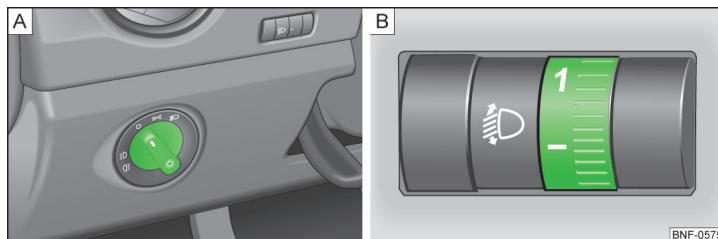

Fig. 35 Light switch / Knob for headlamp beam adjustment
The arrangement of the controls right-hand drive models may differ from the layout shown in » Fig. 35 on page 48. The symbols which mark the positions of the controls are identical.
Depending on the equipment configuration, the light switch » Fig. 35 - A can be moved to the following positions.
Turning the rotary switch » Fig. 35 - B from the position — to 3 gradually adjusts the headlight range control and shortens the light cone.
- ✓ The light switch is in position 0 \gg Fig. 35 on page 48.